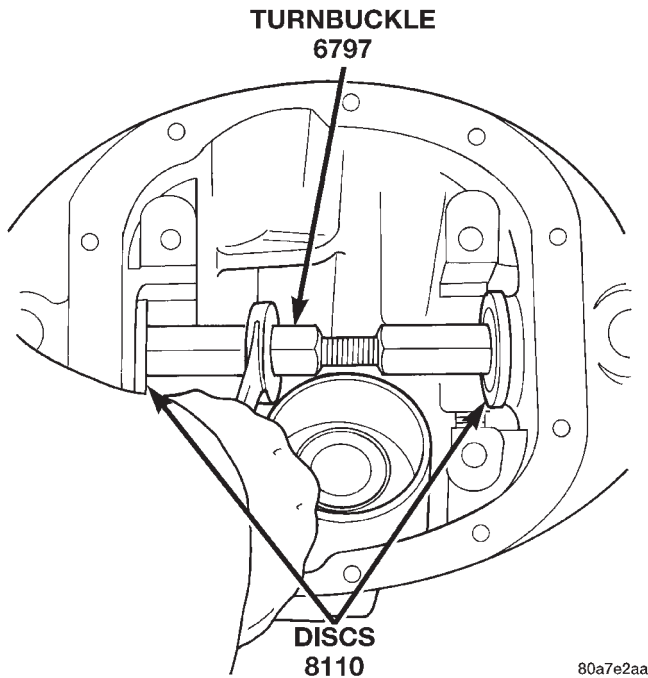

Fig. 34 Axle Seal Installation
- (1) Remove any sealer remaining from original seals.
- (2) Remove sealer from axle tube to housing junction, if necessary.
- (3) Install oil seals with Discs 8110 and Turnbuckle 6797 (Fig. 34). Tighten tool until disc bottoms in housing.